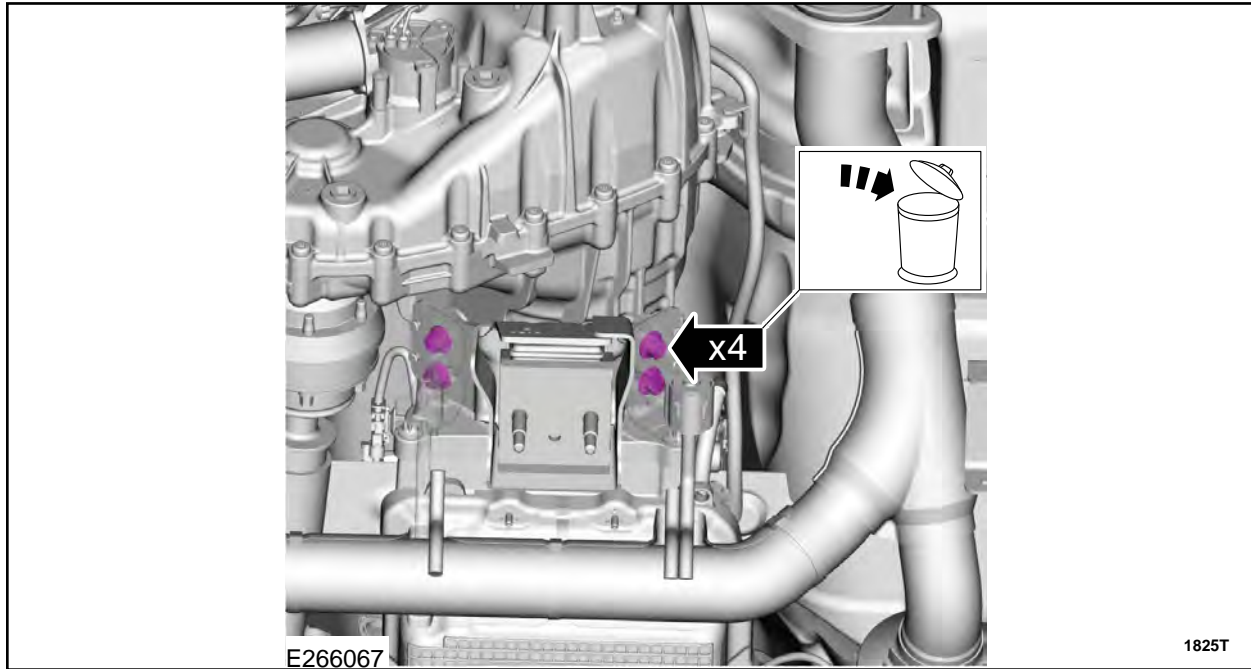

FIGURE 28
45. Remove and discard the transmission support insulator bolts and washers. See Figure 28.